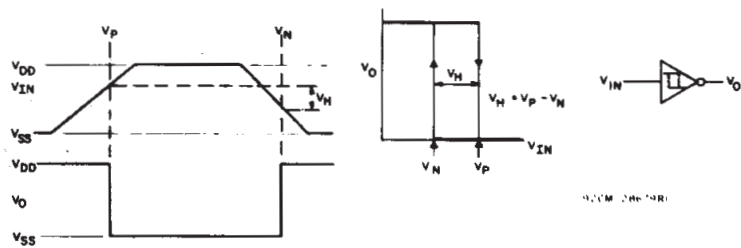

Fig.6 — Hysteresis definition, characteristics, and test set-up.
■ CD40106B consists of six Schmitt-trigger circuits. Each circuit functions as an inverter with Schmitt-trigger action on the input. The trigger switches at different points for positive- and negative-going signals. The difference between the positive-going voltage (V_P) and the negative-going voltage (V_N) is defined as hysteresis voltage (V_H) (see Fig.6). The CD40106B types are supplied in 14-lead hermetic dual-in-line ceramic packages (F3A suffix), 14-lead dual-in-line plastic packages (E suffix), 14-lead small-outline packages (M, MT, M96, and NSR suffixes), and 14-lead thin shrink small-outline packages (PW and PWR suffixes).